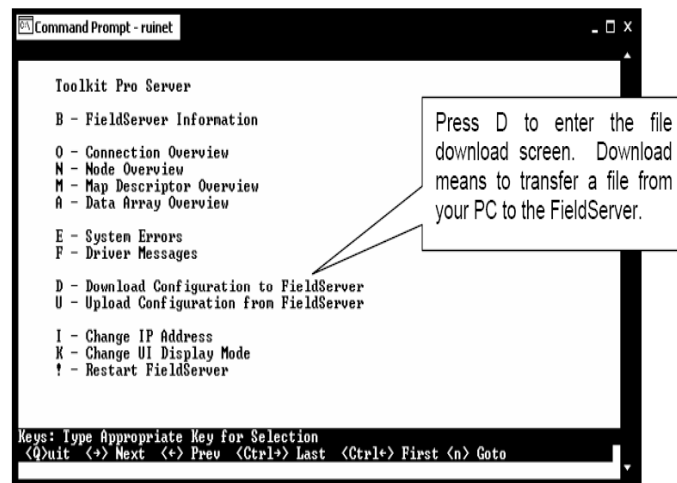

Figure 19: Download new Config.csv file
14.) From the RUINET Main Menu, type **<D>** to Download the new config.csv file to the FieldServer (Figure 19).